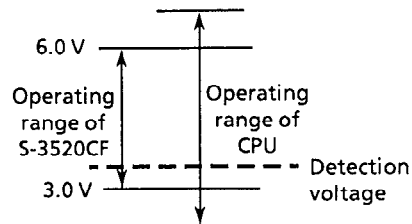

Figure 11 Setting of detection voltage at power down of system power
When using the S-3520CF with system power and backup battery power, power-down detection and power change circuits are needed. If the system power is down,  $V_{DD}$  falls to the battery voltage level. The power supply voltage range where the S-3520CF can interface with a CPU is 3.0 to 6.0 V. To prevent a malfunction, design a circuit so that the S-3520CF cannot be accessed when  $V_{DD}$  is higher than 3.0 V and higher than the minimum operating voltage of the CPU (see Figure 11). As in Figure 12 on the next page, moreover, design so that the PDW goes low before  $V_{DD}$  falls to (1) and goes high after system power returns and  $V_{DD}$  rises to (1).
(1) Minimum operating voltage of the CPU  $\geq 3.0$  V
(2) Minimum operating voltage of the CPU  $< 3.0$  V